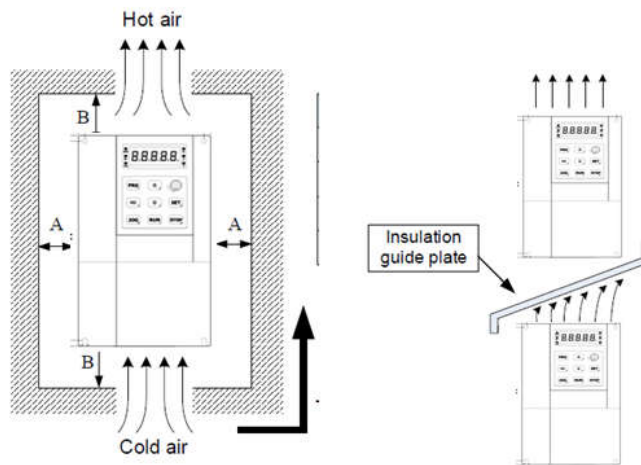

Fig 3-1 AD series AC drive installation
- 1) Reserve the installation clearances as specified in Figure 3-1 to ensure sufficient space for heat dissipation. Take heat dissipation of other parts in the cabinet into consideration.
- 2) Install the AC drives upright to facilitate heat dissipation. If multiple AC drives are installed in the cabinet, install them side by side. If one row of AC drives need to be installed above another row, install an insulation guide plate, as shown in Figure 3-1.